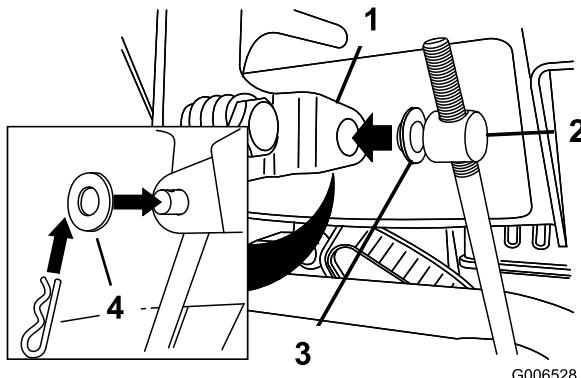

Figure 11
3. Remove the hairpin cotter and the outer washer from the trunnion on the upper end of the speed control rod (Figure 11).
Note: To make installation easier, leave the flat washer on the trunnion (Figure 11).
6. Lift up on the speed control rod and insert the trunnion into the hole in the speed selector lever (Figure 11).
- B. Disconnect the trunnion from the speed selector lever (Figure 11).
- C. Turn the trunnion downward (clockwise) on the speed control rod (Figure 11).
- D. Connect the trunnion to the speed selector lever (Figure 11).
- C. Turn the trunnion upward (counterclockwise) on the speed control rod (Figure 11).